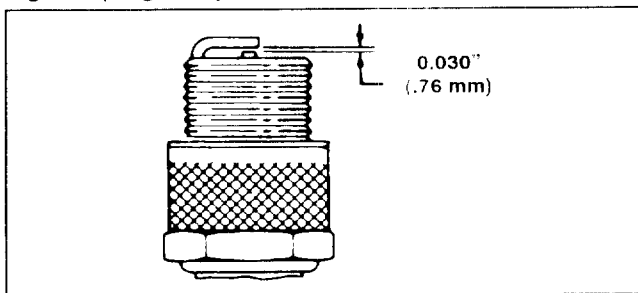

Figure 19
- Set air gap at 0.030" (0.76 mm) (Fig. 19). Install correctly gapped spark plug and gasket seal. Tighten plug firmly to 14 ft-lb (19 N·m).